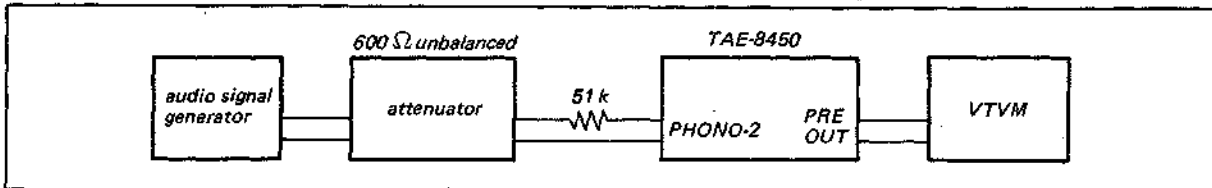

Fig. 3-5. Pre-out check setup
1. Connect the equipment as shown in Fig. 3-5.